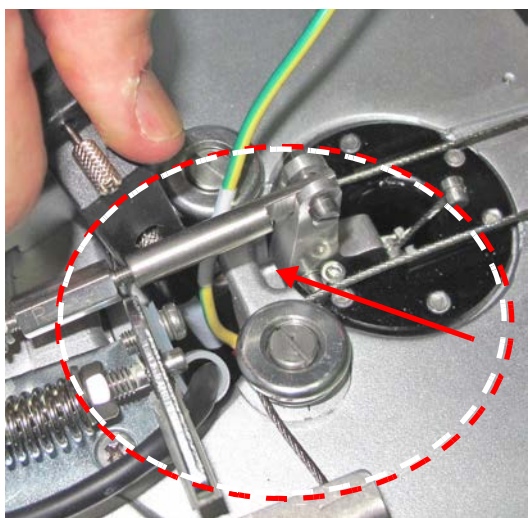

Figure 8-87 Releasing Up-Down Lever Shaft
NOTE: Before threading the cables through the aperture in the OIPIO platform, the "up-down lever shaft" must be removed from obstructing the cable aperture as shown in - Figure 8-87 below.
- 8.) Secure the "up-down shaft" previously released - refer to Figure 8-87 on page 8-69.